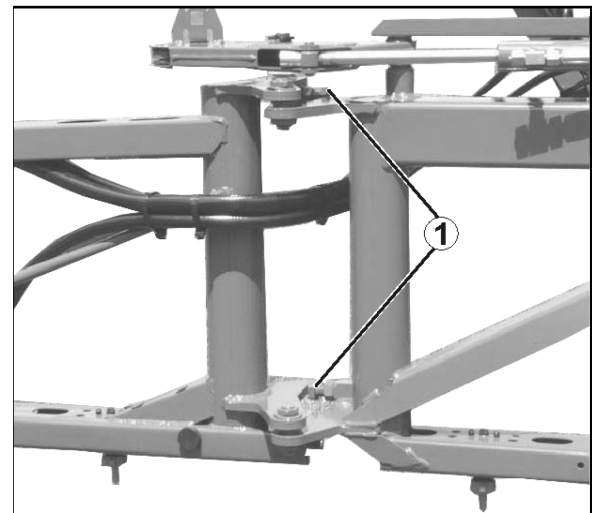

Fig. 138
1. Unscrew the lock nut on the adjusting screw (Fig. 138/1).